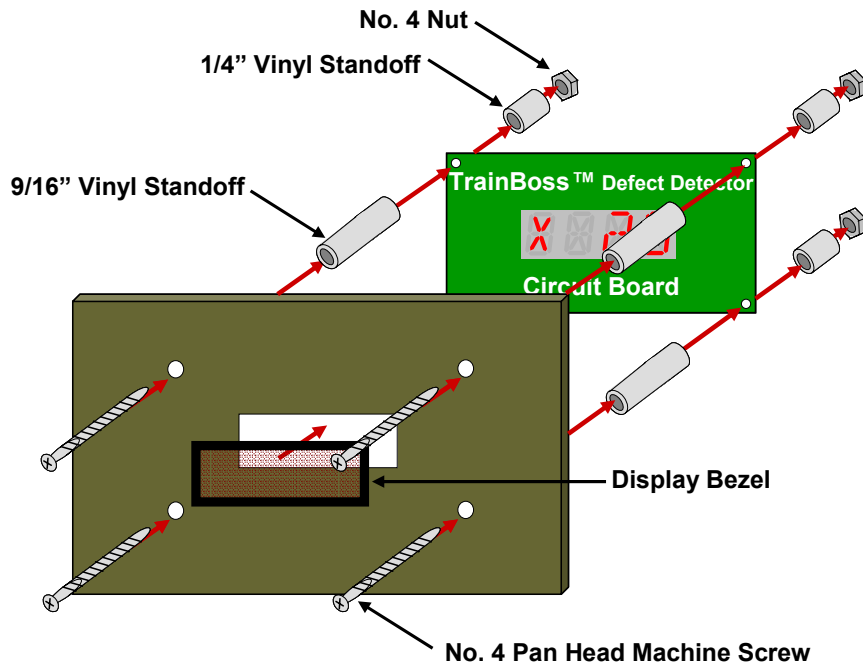

Figure 4: Circuit Board Installation
4. Install the Defect Detector circuit board as shown in **Figure 4**. Slice 9/16" and 1/4" standoffs from the vinyl tubing provided. The screw holes in the circuit board are for No. 4 pan-head screws (not included).
2. Connect the RED, BLACK and YELLOW wires from the Axle Sensors as shown in **Figure 4**.
1. Use the Navigation pushbuttons (UP, DOWN, SELECT, BACK – see **Figure 4**) and the Display to move among SVs. A light touch is best.